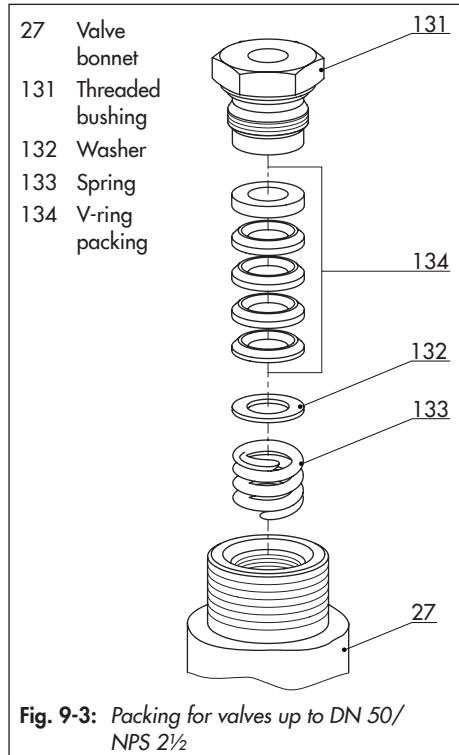

Fig. 9-3: Packing for valves up to DN 50/
1. Unscrew the threaded bushing (131).
2. Undo the body nuts (52) gradually in a crisscross pattern.
3. Carefully lift the flange (34) and valve bonnet (27) off the valve body (20) over the plug stem (2).
6. Apply a suitable lubricant to all the packing parts and to the plug stem (2).
7. Carefully place the valve bonnet (27) and flange (34) over the plug stem (2) and the studs (51) onto the body (20). Make sure that the gasket (46) is properly seated in the body.
8. Carefully slide the packing parts over the plug stem into the packing chamber using a suitable tool. Observe the proper sequence (see Fig. 9-3).
9. Fasten down the flange (34) with the body nuts (52). Tighten the nuts gradually in a crisscross pattern. Observe tightening torques.
10. Apply a suitable lubricant to the thread of the threaded bushing (131). Screw in the threaded bushing and tighten it. Observe tightening torques.